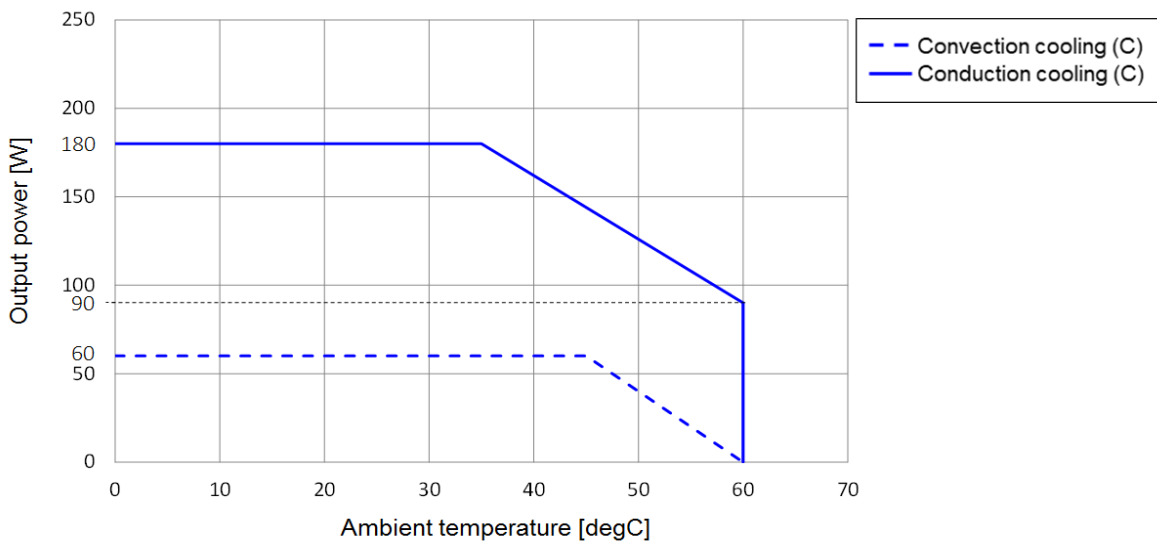

Fig 2.7 Conduction cooling at (C) mounting
The derating curve comparison between conduction cooling and convection cooling (C) mounting is shown in Fig 2.7.